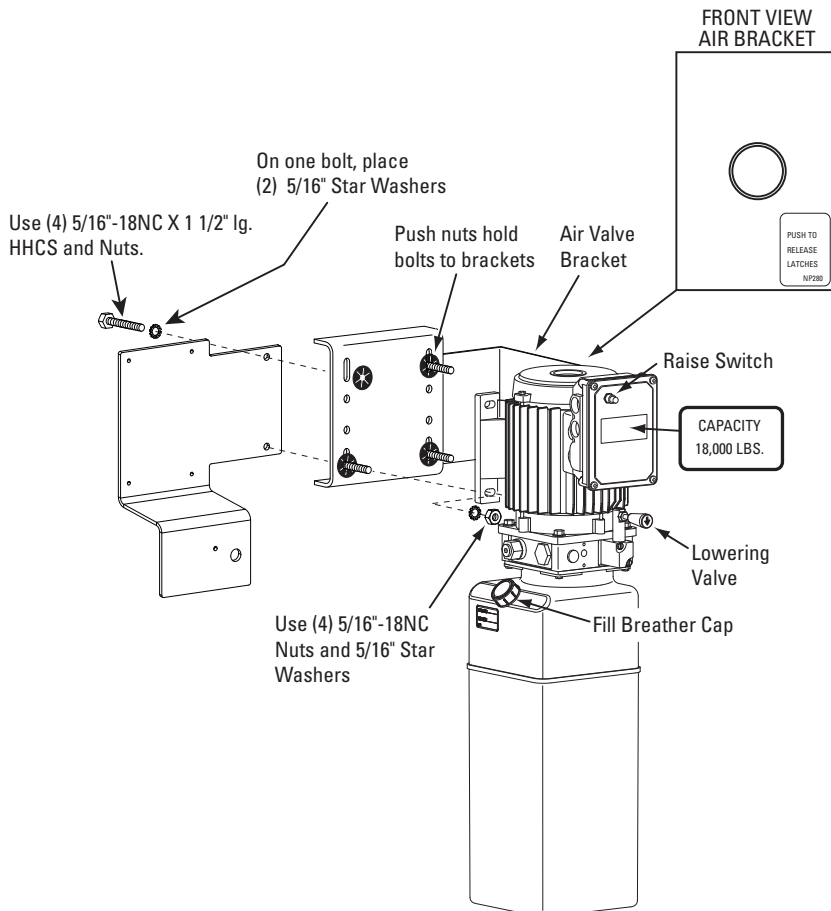

Fig. 17
A. Align Latch Release Air Valve Bracket with holes in right side of Column Bracket. Put four 5/16" x 1 1/2" hex bolts through holes in Air Valve Bracket and Column Bracket, using push nuts to hold in place, Fig. 17. When using 3Ø Control Box with push button, position mounting bracket to the rear of the power unit bracket and attach using two (2) of the 5/16"-18NC x 1 1/2" HHCS, Fig. 17.
D. Attach enclosed NP280 decal (ACTUATE TO RELEASE LATCHES) below button on air valve bracket, Fig. 17. Run 1/4" air line from air valve to the slot in the fixed runway. Cut airline and attach a Tee, Fig. 25.